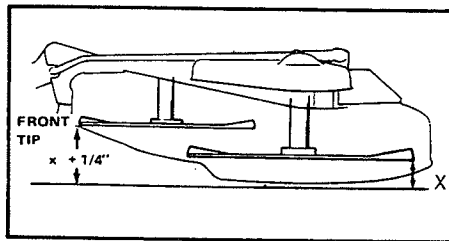

Figure 38. Levelling Mower
- Measure the distance from the front tip of the center blade to the ground, and note that measurement. (See figure 38).
- Measure the distance to the ground from the rear tips of the left and right blades. Compare these measurements with the measurement from the front tip of the center blade. The front tip of the center blade should be 1/4 inch (6 mm) higher than the rear tips of the side blades (figure 38).